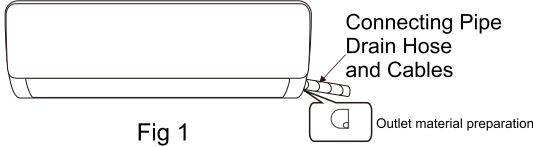
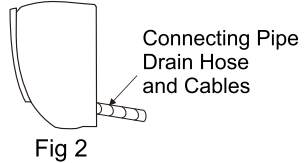

Fig 1
Fig 2
- Depending on the position of the unit, the piping may be routed sideway from the left or the right (Fig 1), or vertically from the back(Fig 2)(depending on the pipe length of the indoor unit). In the case of sideway routing, cut off the outlet cutting stock of the opposite side.